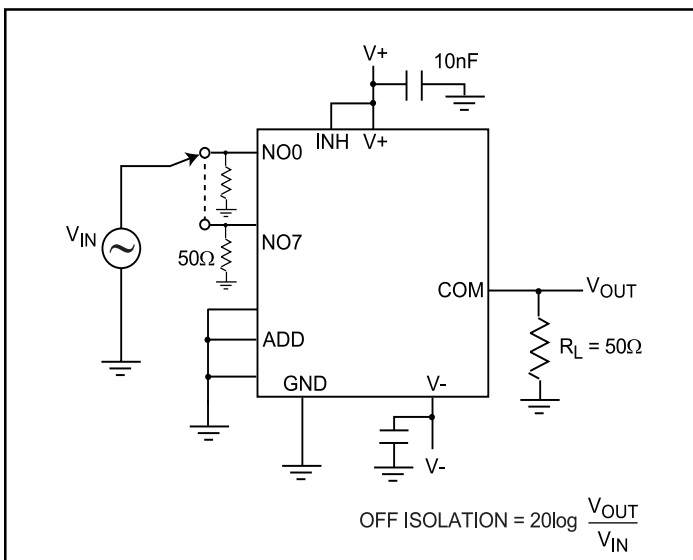

Figure 5. Off Isolation
- Off Isolation = $20 \log_{10} V_{COM} / V_{NO}$. See Figure 5.